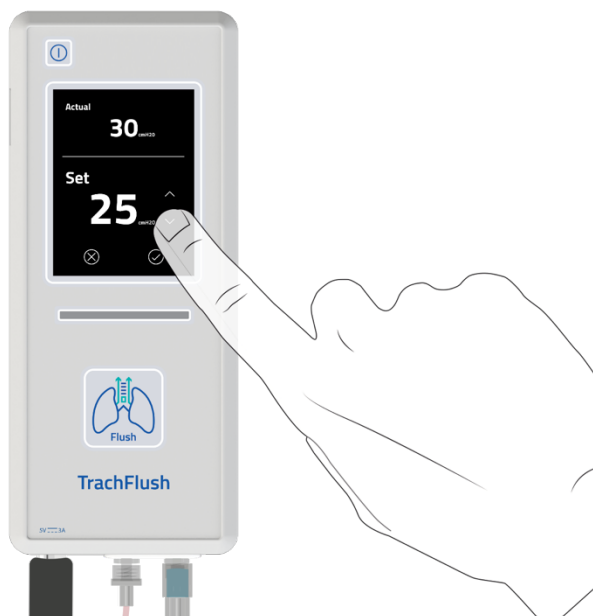

Figure 14: Decreasing cuff pressure
**Step 1:** Decrease the cuff pressure by pressing  (arrow down) as shown on figure 14 below.